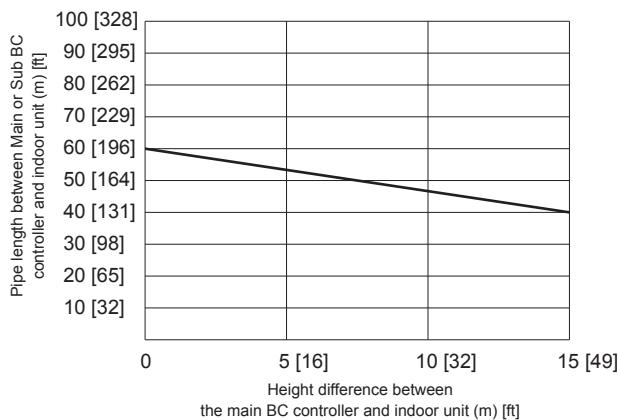

Fig.1
*2 Refer to Fig. 1. (However, when P72 or P96 model of indoor unit is connected, the maximum allowable distance between BC controller and farthest indoor unit is 40 m.)
*3 When the piping length or the height difference exceeds the restriction specified in Fig. 1, connect a sub BC controller to the system. The restriction for a system with a sub BC controller is shown in Fig. 2. When a given system configuration falls within the shaded area in Fig. 2, increase the size of the high-pressure pipe and the liquid pipe between the main and sub BC controller by one size. When using P12, P15, P18, P36, or P48 model of indoor units, increase the size of the liquid branch pipe between the sub BC controller and indoor unit by one size. When using P54 or larger model of indoor units, the restriction shown in Fig. 1 cannot be exceeded.
*12 Sub BC controller cannot be used at (B).